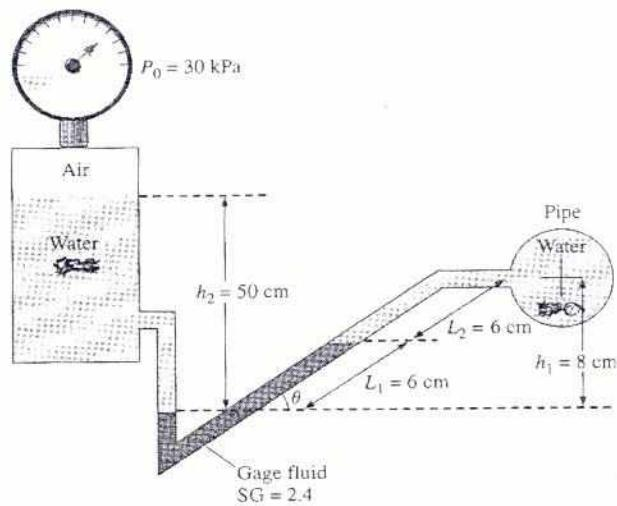

Fig. 1
- (b) The pressure of water flowing through a pipe is measured by the arrangement shown in the Fig. 1. For the values given, calculate pressure in pipe. [5]